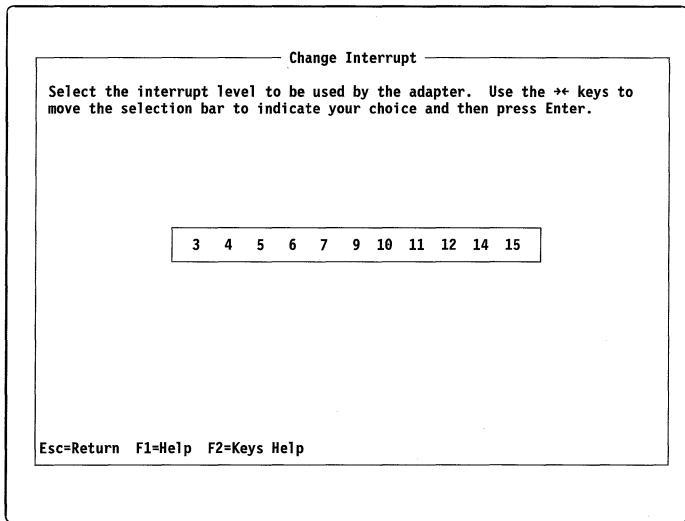

Figure 23. Change Interrupt Screen
3. From the Change Adapter Configuration screen, select the Change Interrupt option. The Change Interrupt screen, similar to the one shown in Figure 23, appears.